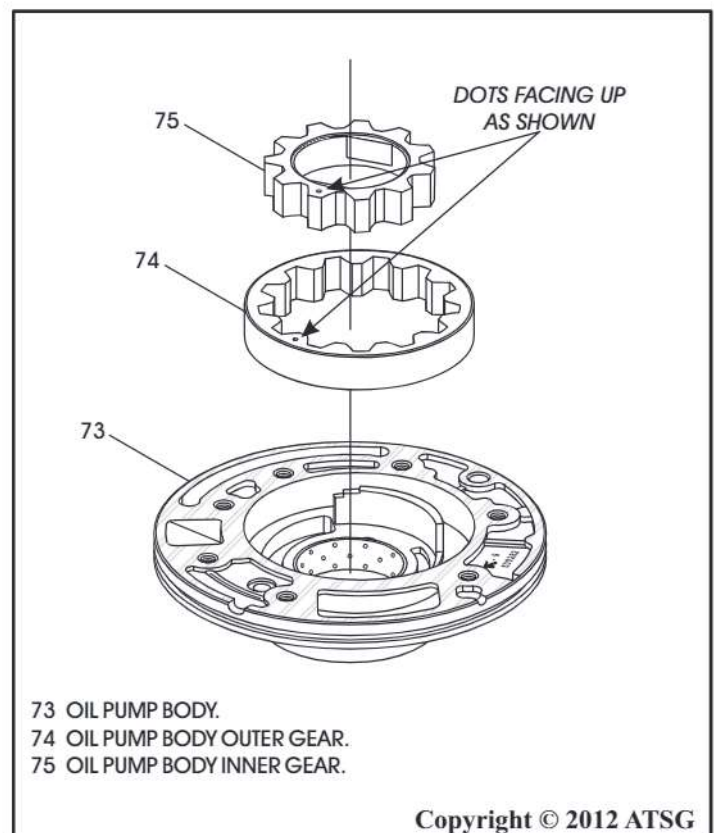

Figure 201
7. Turn the oil pump over and install pump gears into the pump pocket, as shown in Figure 201, with the "Dots" facing UP, as shown.